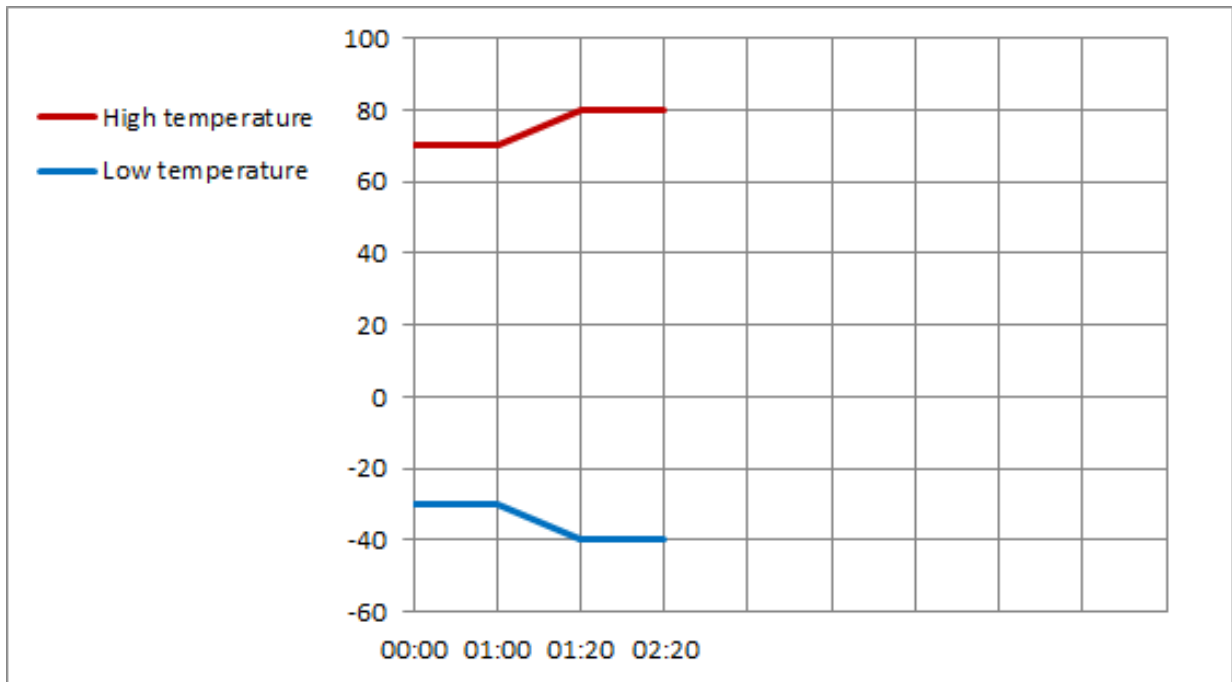

Figure 1.07.1.01 Thermal stress test curve
9. Test Environment Curve Figure 1.07.1.01